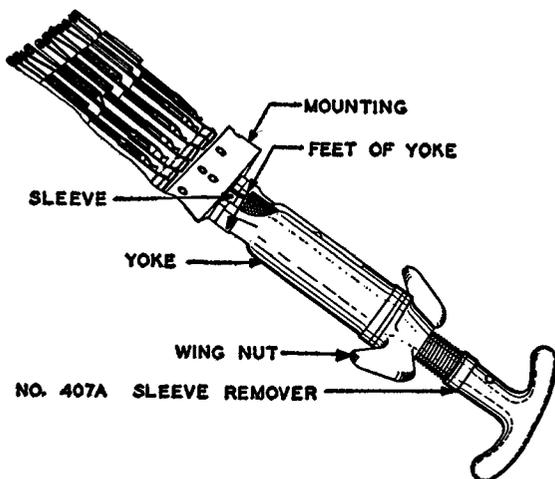

Fig. 4—Method of Extracting Sleeve with No. 407A Sleeve Remover
3.07 Holding the yoke portion of the No. 407A sleeve remover so that the feet of the yoke are in line with the jack mounting, turn the wing nut in a clockwise direction until the feet of the yoke come into contact with the face of the jack mounting as shown in Fig. 4. If the sleeve is being replaced on a jack which is close to the stile casing of the switchboard, it may be necessary to straddle vertically the sleeve being removed or, in extreme cases where this cannot be done, hold one foot of the yoke against the stile casing and insert an insulating spacer equal to the thickness of the stile casing under the other foot of the yoke. Continue to turn the wing nut until the sleeve can readily be pulled out of the mounting.